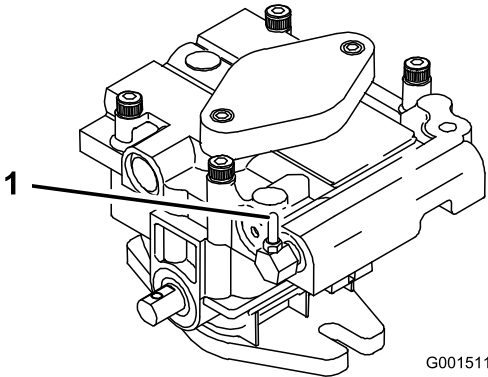

Figure 14
2. Open the by-pass valves by turning them counter clockwise 1 to 2 turns. This allows hydraulic fluid to by-pass the pumps and the wheels to turn (Figure 14).